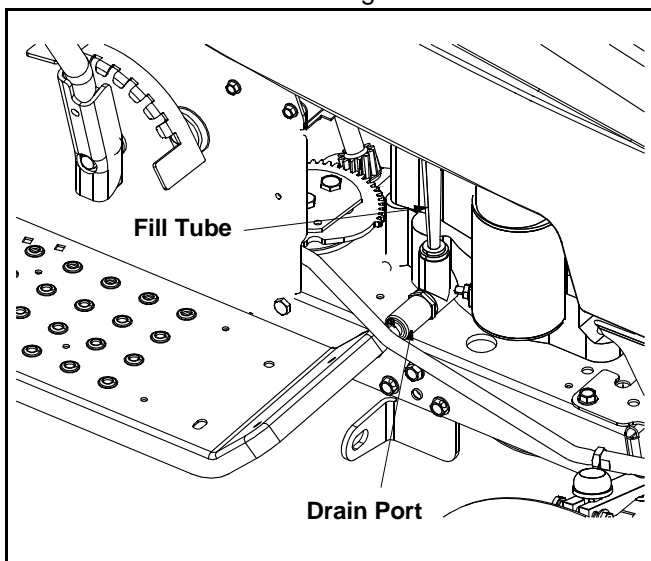

Figure 22
- Unscrew the oil fill cap and remove the dipstick from the oil fill tube. See Figure 22.